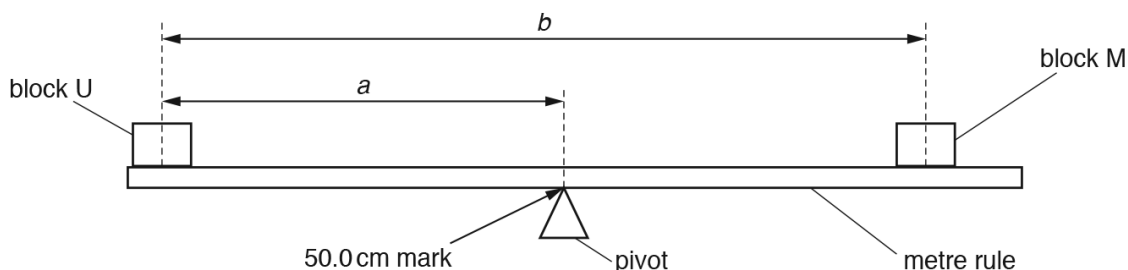

Fig. 1.1
They are using the apparatus shown in Fig. 1.1.
- (b) (i) The student places block M on the metre rule as shown in Fig. 1.1 and adjusts the position of block M until the metre rule is as near to being balanced as possible. Briefly describe a method to find the position at which the metre rule is as near to being balanced as possible.